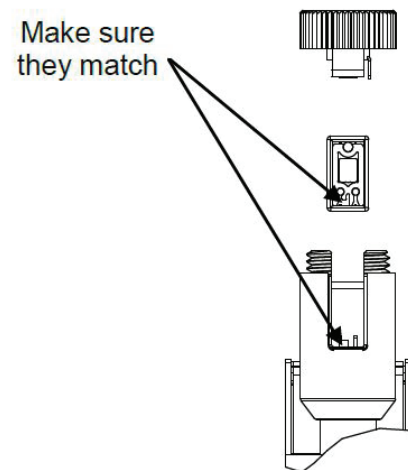

Figure 9
3. Check the direction of the track (Figure 9), both the neutral line sign of the track and the adapter should be on the same side to make sure the contact between conductive strip and track is solid.